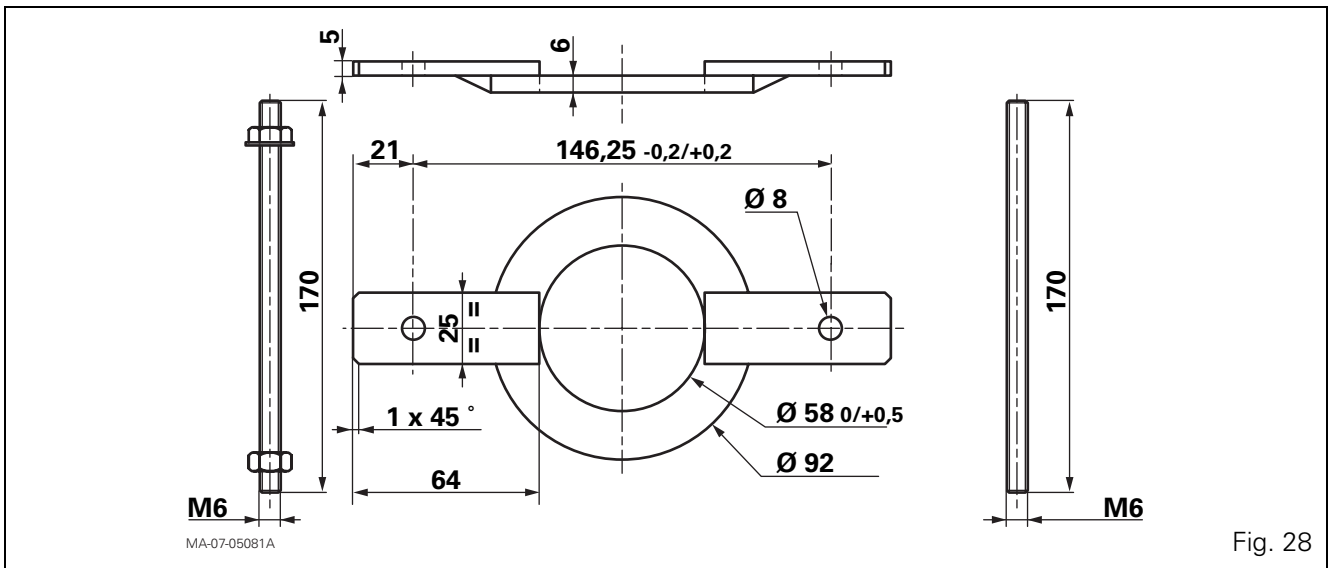

Fig. 28
- Clutch spring holding tool (Fig. 28)